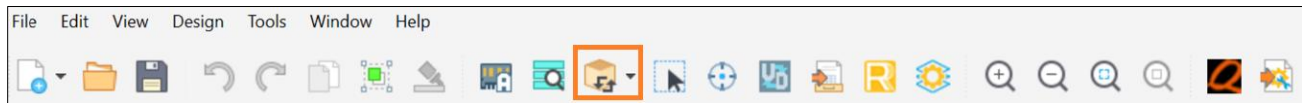

Figure 5.16. Generate in the Lattice Propel Design
7. To generate the design, select **Design > Generate** or click the **Generate** icon (as shown in Figure 5.16). Ensure the TCL console shows no errors, and only the expected INFO messages and WARNING appear.